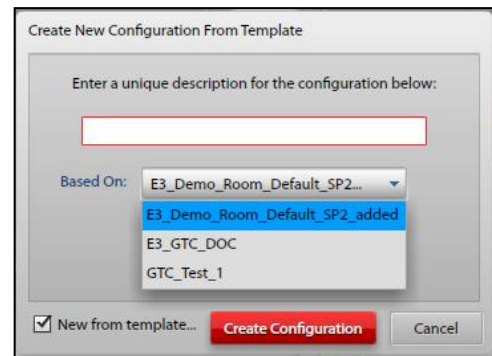

Figure 5. Create New Configuration from Template
1. Click the NEW FROM TEMPLATE checkbox (see Figure 5) to create a new configuration file based on an existing configuration. A pull-down list showing all existing local configurations displays: